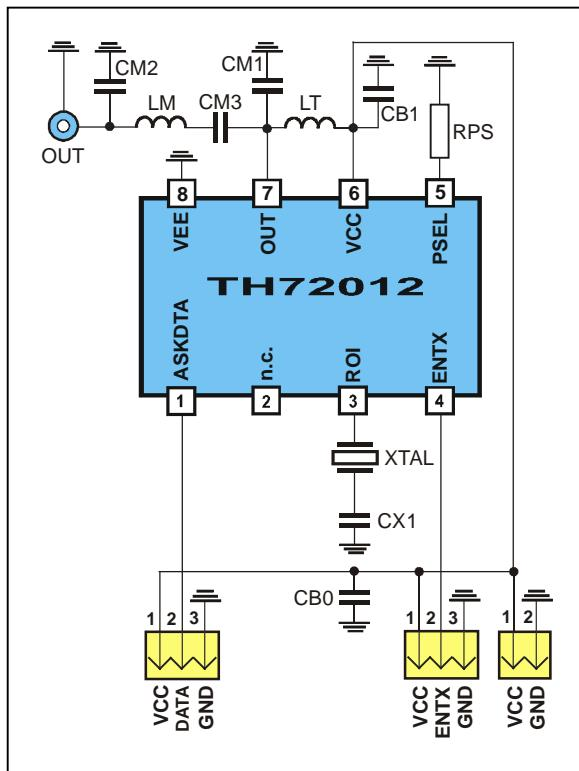

Fig. 17: Test circuit for ASK with $50\ \Omega$ matching network
- Data according to test circuit in Fig. 17
6.1 Test circuit component list to Fig. 17